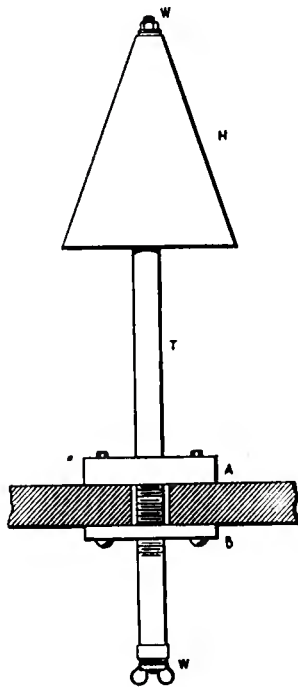

Figure 115
(1) Figure 115. To show the general construction of the Bradfield type of deck insulator.
The deck insulator of figure 115 consists of a long hard rubber tube "T" about 2" in diameter which has a brass rod extending through it terminating at each end in a wire connecting lug W. The tube is threaded at the center to take the wooden blocks A, B, one of which is placed above the deck and the other underneath. After these blocks are drawn up tightly, they are held in place by wooden screws or lag bolts. To insure a water-tight joint a piece of canvas covered with white lead is placed under-